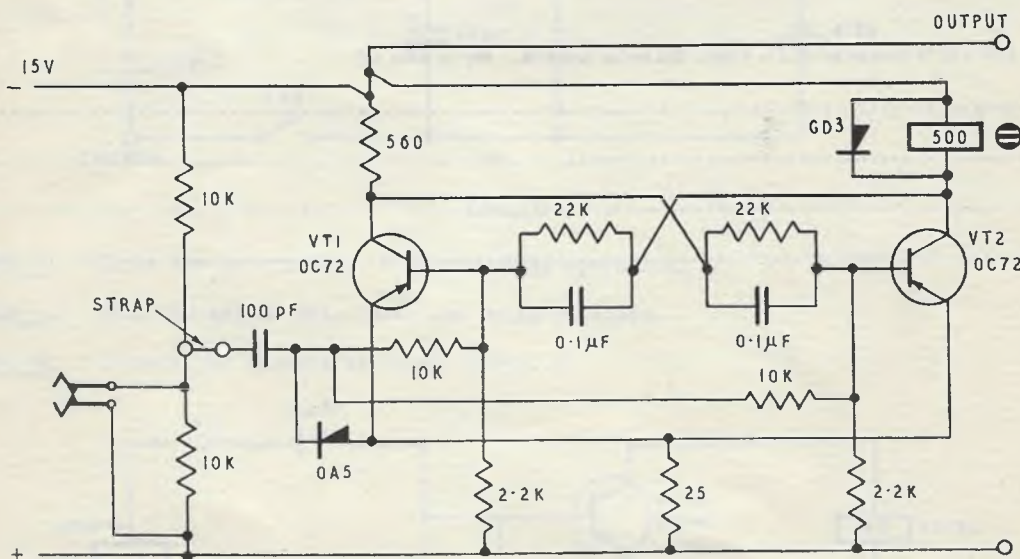

FIG. 1.
Transistors can be used to operate a counting device as in the bi-stable circuit of Fig. 1. Pulses are applied to the input, and for every two input pulses the indicator operates once. This type of circuit can be used for binary counting.
STEP 1. Connect the circuit as shown in Fig. 1.